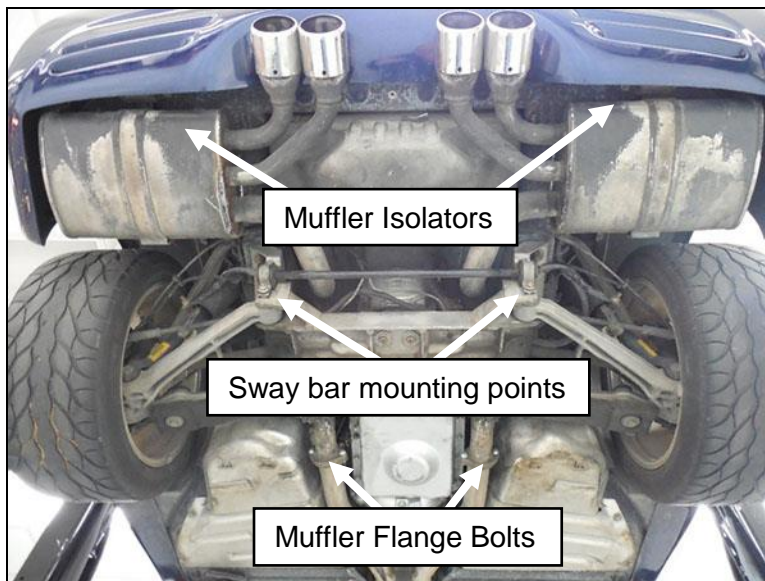

Figure 1
3. Remove the (x4) bolts at the flanges connecting the OEM mufflers to the H-pipe (**Figure 1**).
6. Remove the (x2) nuts and (x2) bolts from the rear sway bar center mounting bushings. Do not remove the lower control arm bolt. Allow the sway bar assembly to swing down and away from the exhaust pipes (**Figure 1**).
7. Remove the (x2) 13mm bolts at each muffler isolator assembly (**Figure 1**).